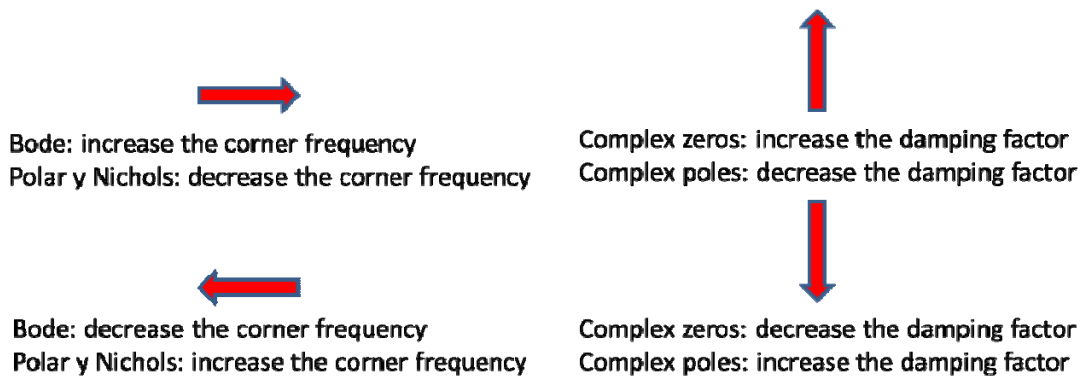

Figure 18. Meaning of the displacements in Bode magnitude diagram, polar diagram, and Nichols diagram
To configure the corner frequency of a pole ('x') or a zero ('o'), the user has to locate the mouse pointer on the interactive element, and drag the element to the desired position. A corner frequency can only be dragged horizontally to the left (or to the right). Figure 18 shows the meaning of the displacements in Bode diagram, polar diagram, and Nichols diagram.
- Damping ratio δ of a pair of complex poles or zeros. To configure the damping ratio δ of a pair of complex poles ('x') or zeros ('o') in the Bode magnitude plot, the user has to locate the mouse pointer on the corner frequency, and drag vertically upward or downward (see Figure 18)